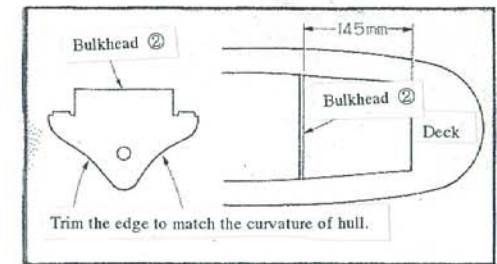

Fig. 4 Installing the bulkhead
The bulkhead ② is to be bonded at the position of the dimension in Fig. 4. Trim the edge of bulkhead mating the inside of hull to match with the hull shape as shown in Fig. 4.